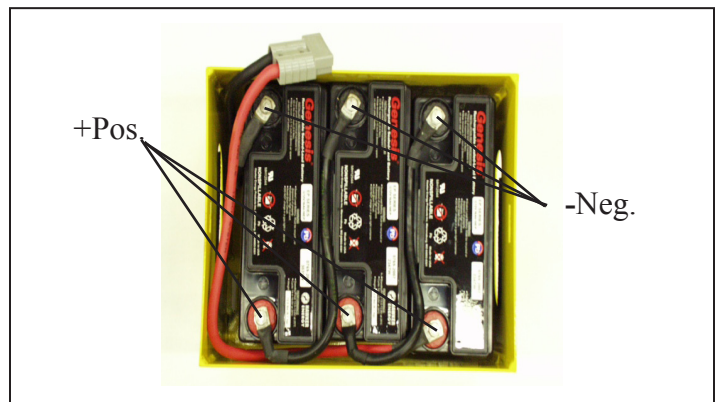

Figure 1. Battery cable and terminals
2. Locate the four battery cables and connect them to the terminals on the batteries and the battery box as shown in figure 1. Do not replace the lid on the battery box at this time.